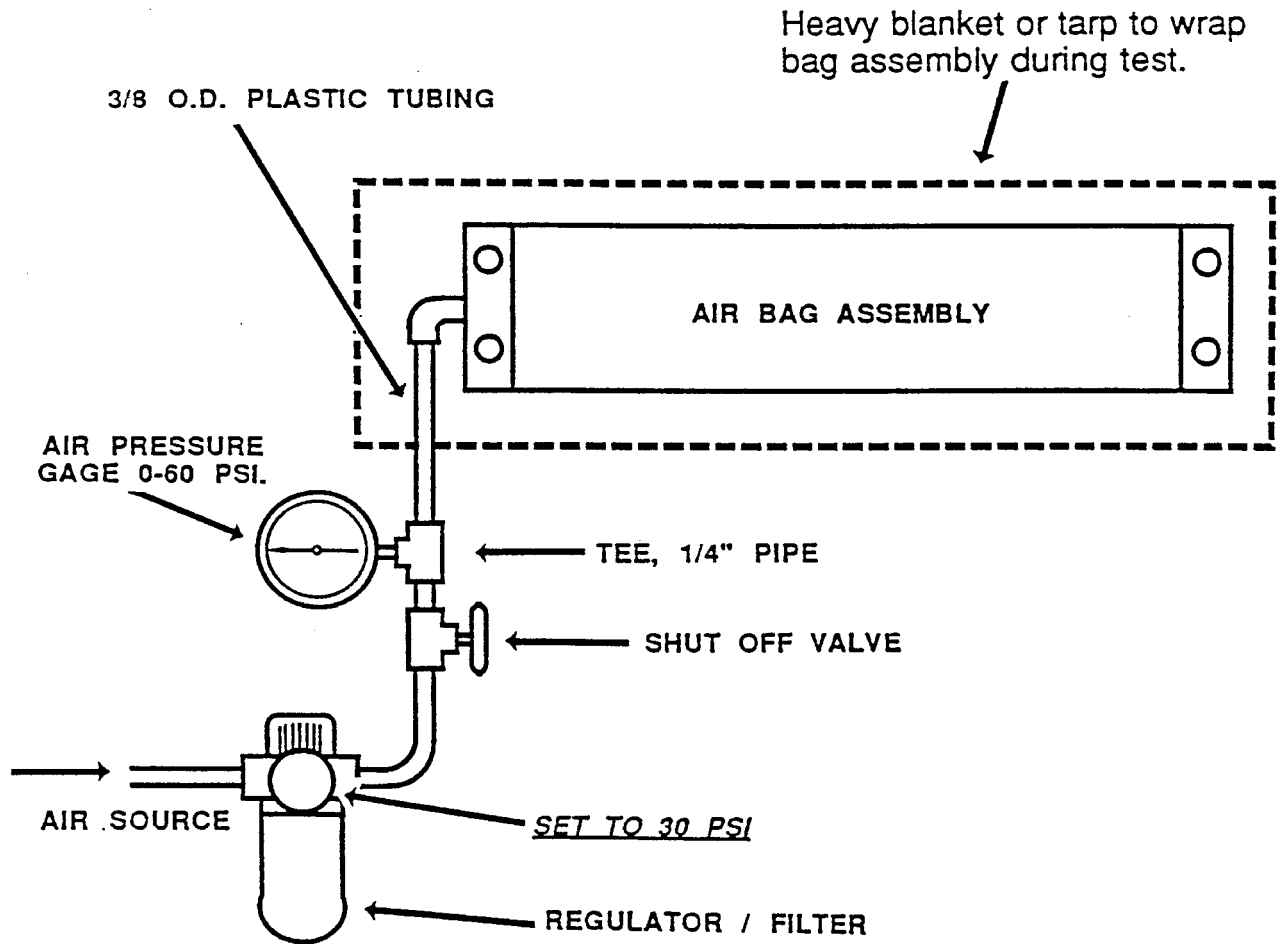

Figure 5: Air Bag Assembly - Leakdown Test Set-Up
11.0 AIR BAG LEAKDOWN TEST (See Figure 5)